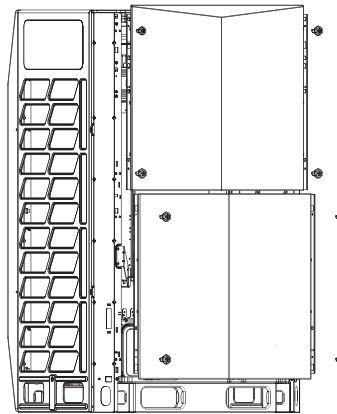

Fig.4-18
- Dismantling the upper panel: dismantle 4 screws of the upper panel on left and right sides(Fig 4-18) and then uplift it for 3mm to remove the upper panel.